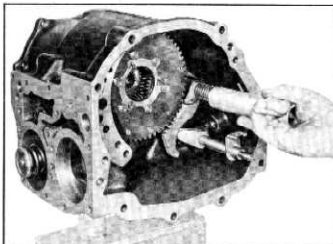

Fig. 200—Installing Parking Pawl Spring
15. Wind up pawl spring using tool, J-3383, so that spring catches on inside of case (fig. 200).